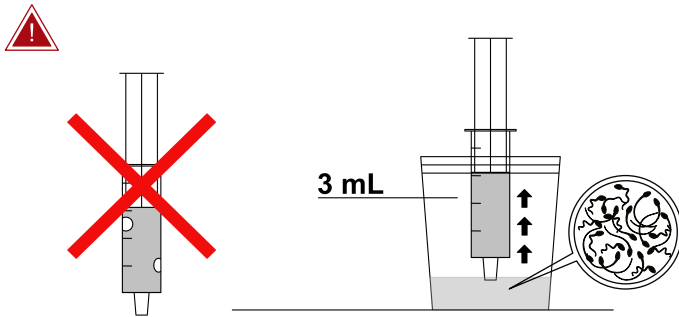

Figure 1. Draw 3 mL of the sample.
4. Take approximately 3 mL of semen sample from the sample container with the help of an injector. Be careful not to get air bubbles into the syringe while taking samples due to its dense structure. These air bubbles will cause volume loss and affect the performance of the product (Figure 1).